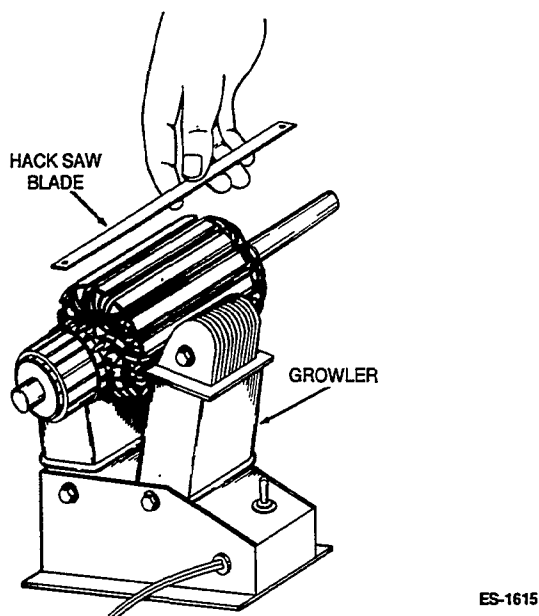

FIGURE 6-40. TESTING ARMATURE FOR SHORTS
**Testing for Shorts:** Use a growler (Figure 6-40) to locate shorts in the armature. Place armature in growler and hold a thin steel blade (hacksaw blade) parallel to the core and just above the armature while slowly rotating the armature in the growler. (Turn off the growler before rotating the armature.) A shorted armature will cause the blade to vibrate and be attracted to the core. Replace a shorted armature with a new one.